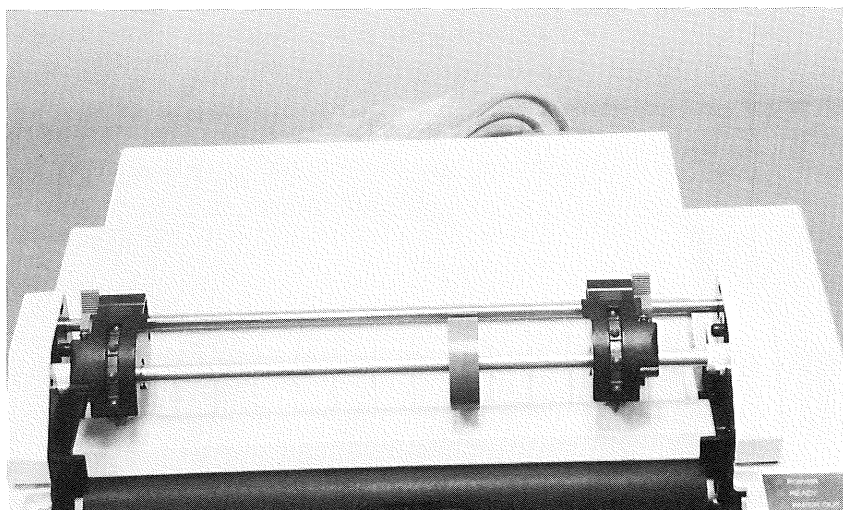

Figure 13.
20. When the paper separator is seated in the slots, lay it flat on the top of the printer. See Figure 13.